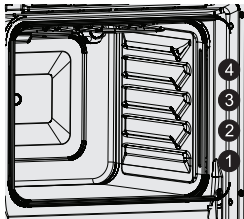
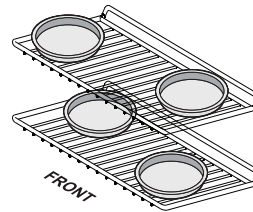

Figure 22: Oven rack positions
Figure 24: Baking with multiple levels & racks
- For best results when baking with one oven rack, place racks in positions 2 or 3 (Figure 22).
- For best results when baking cakes or cookies using two oven racks, place racks in positions 1 and 3 (Figure 22) and place pans as shown in Figure 24.